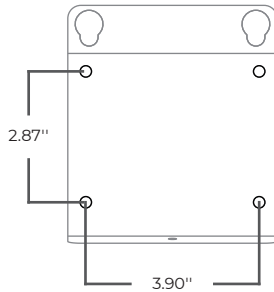

Fig. 5-9
1. Refer to Fig. 5-9 to understand the dimensions of the wall bracket. Make sure the space on the wall is at least 3.90" x 2.87" (99mm x 73mm).